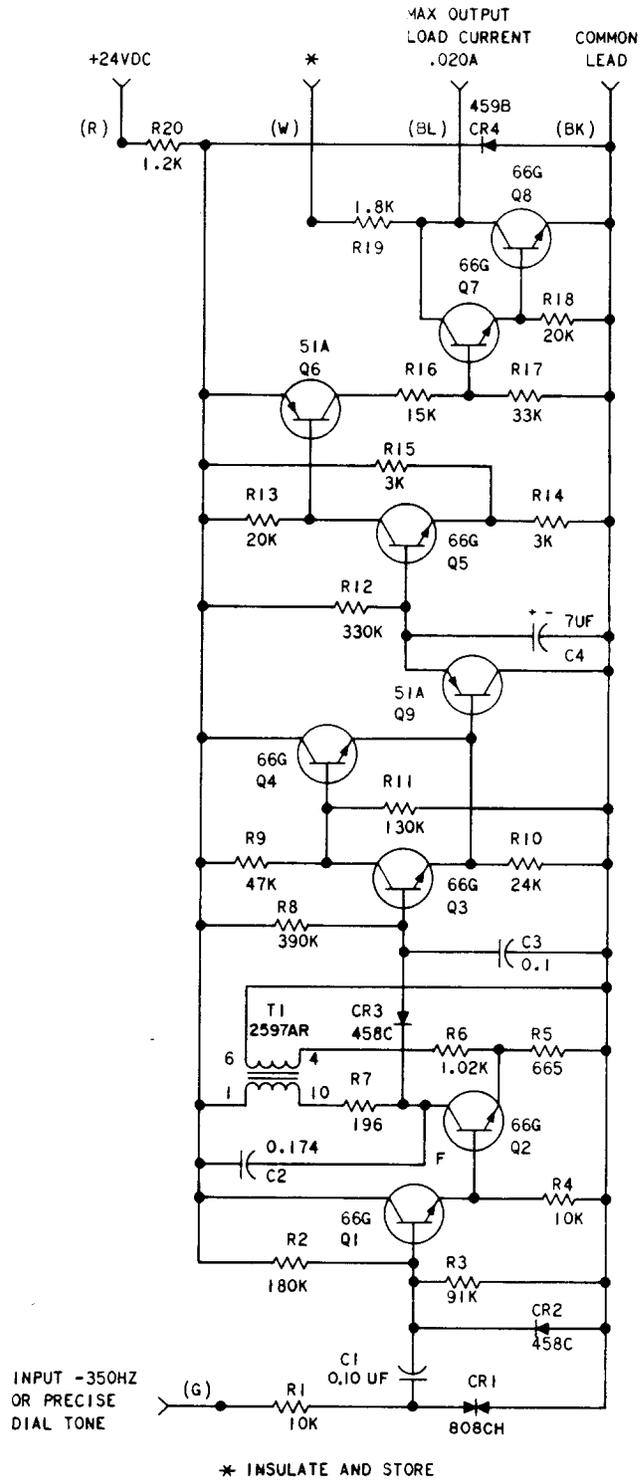

Fig. 2—Schematic, 1A350 Tone Detector
- 1.02 This section is reissued to revise Fig. 2.
- 2.02 The detector printed wiring board is equipped with four spade-tipped leads for the input, output, and power connections. Refer to (Fig. 2) for a schematic drawing of the 1A350 tone detector.